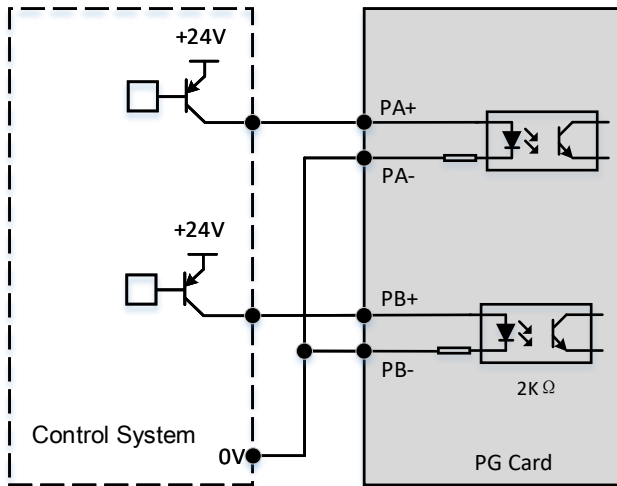

Figure 7 PNP pulse given wiring diagram
- 4、 PNP pulse, connected to PA+/PB+, PA-/PB- connected to 0V of external system, application PLC, as shown in **Figure 7**.